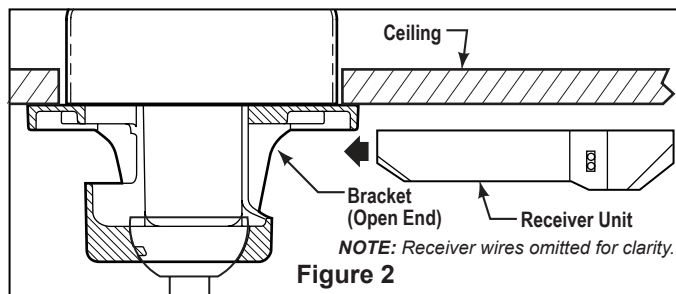

Figure 2
- Slide remote Receiver into the Hanger Bracket (Figure 2).
(Including in the control).(Figure 2)